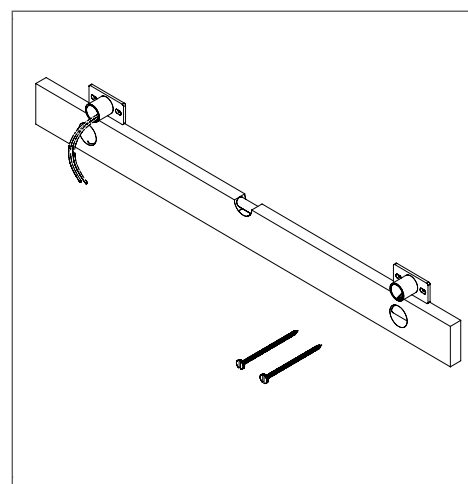

Fig 4.0
- Use the towel rail as a guide to determine the correct position for the metal brackets or use the fixing dimensions in Table 1.0. Use a level to align the brackets before fixing as shown in Fig 4.0.